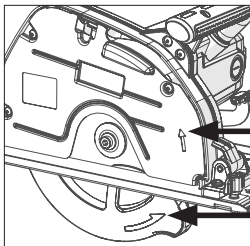

Fig. 6
- Install the (new) blade. Ensure that the direction of rotation arrows printed on the blade, match the direction of rotation arrows found on the machines upper and lower blade guards. **(Fig.6)**.